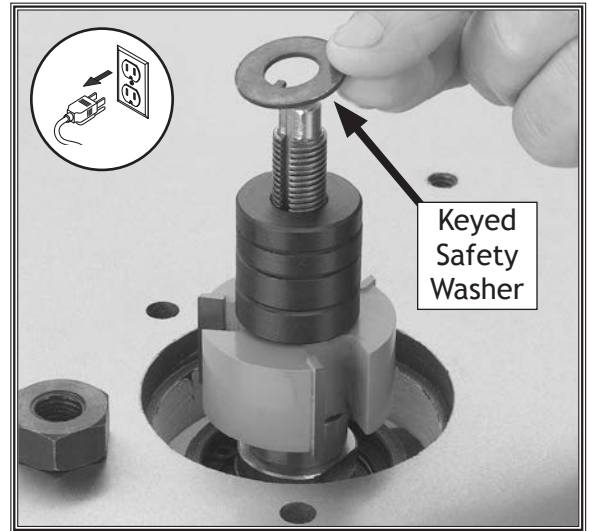

Figure 26. Placing the keyed safety washer.
3. Install the keyed safety washer and nut as shown in Figure 26.